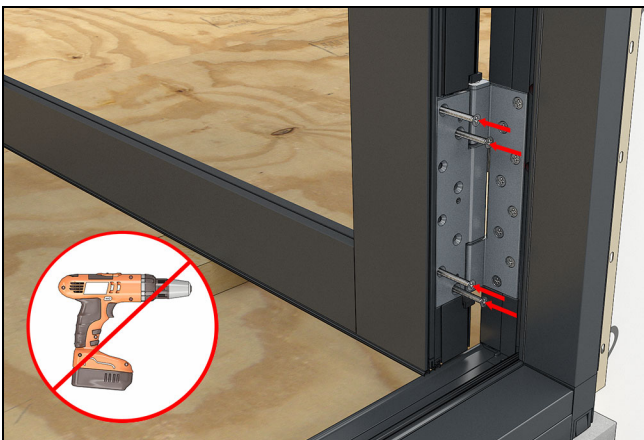

Figure 70
2. Hand tighten #10 x 1 1/2" machine screws to fasten the hinges (2) to the panel. Fasten at least 4 of the 8 screws (two to the exterior and two to the interior). See Figure 70.